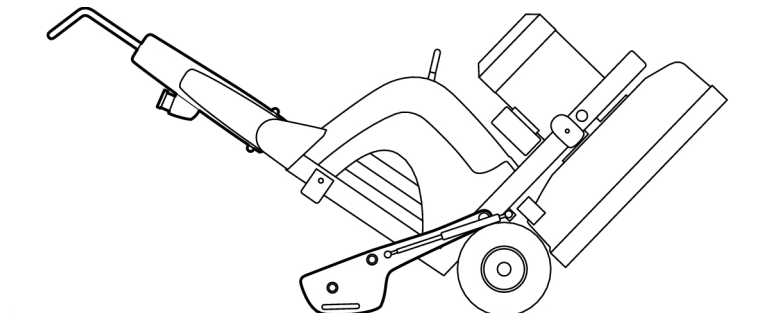

Figure 4-9. Fold back
3. Tip the machine backwards carefully, until the weights reach the floor, see Figure 4-9, page 21.